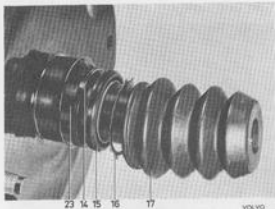

Fig. 5-76. Sealing parts
Lever off the rubber cover. Bend out the lock washer (16, Fig. 5-76). Press in the valve housing and make sure that the sealing ring and guide accompanies the valve out when it springs back. Check to make sure that the valve housing is not scored. Lubricate the new sealing ring, valve housing and sealing areas of the new rubber cover with grease, number 649 49008.
Fit a new guide (14), sealing ring (15) and lock washer (16), see Fig. 5-76. The sealing lip and the guide bevel should face outwards. Carefully press the lock washer ring on until it just bottoms against the sealing ring all round. Fit on the rubber cover and make sure that it is properly fitted at both ends.